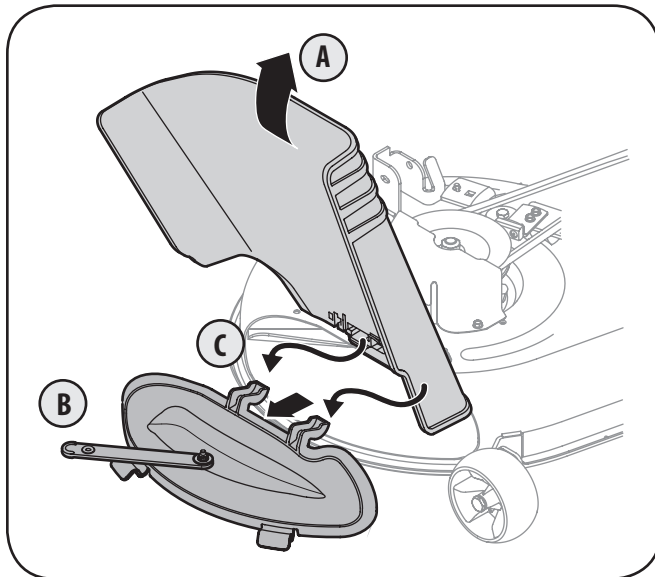

Figure 5-2
To operate the cutting deck without mulching, simply remove the mulch plug by raising the discharge chute (A), unhooking the chute strap from the pin on the cutting deck (B) and removing the mulch plug from under the discharge chute hinge (C). This will allow the clippings to discharge out the side. See Figure 5-2.